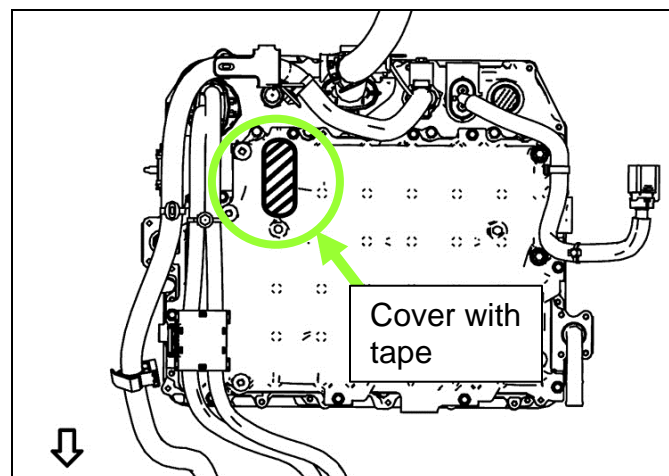

Figure 35
40. Cover the high-voltage bus bar opening shown in the shaded area in Figure 35 with tape to prevent intrusion of any foreign material, dust or moisture.